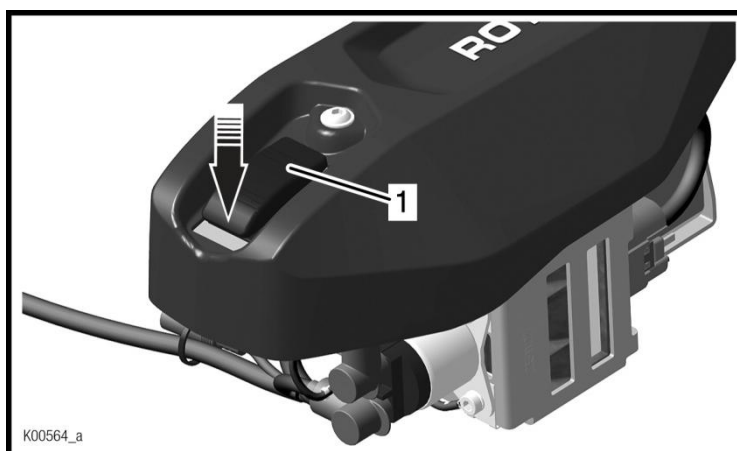

Fig. 6
- ➔ Press the power button once, the electric starter is activated (light turns on). Press the button again until the engine starts (*Fig. 6*).